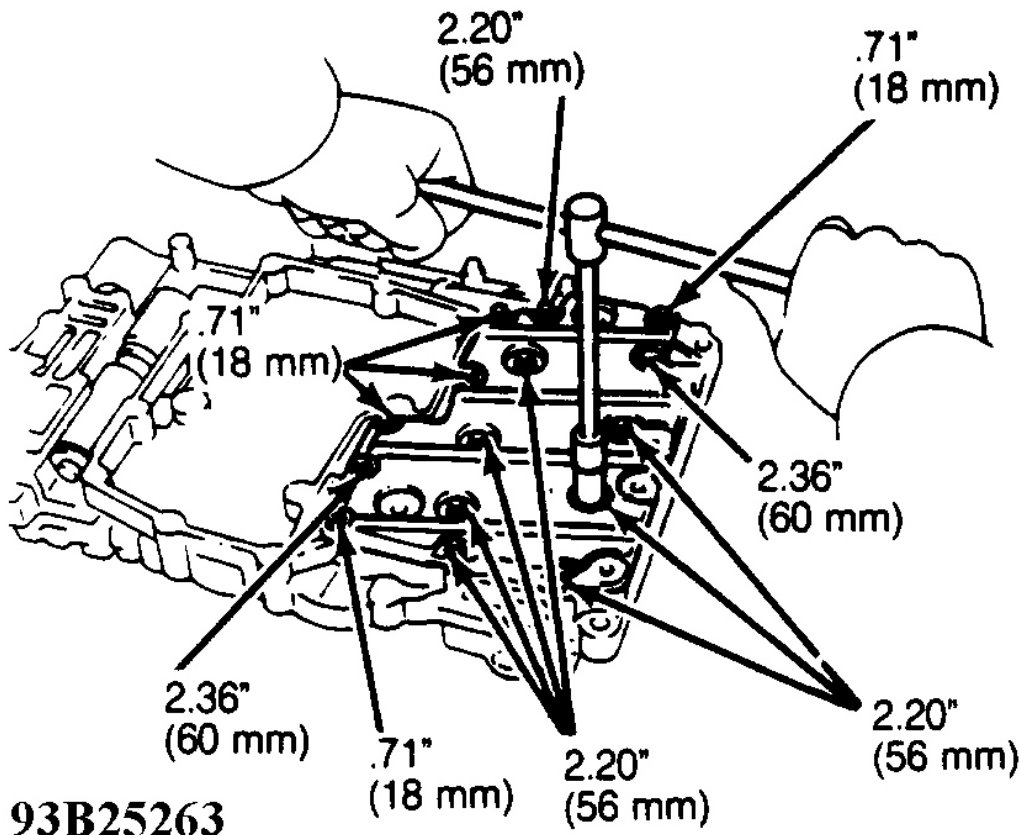

Fig. 51: Locating Valve Body Bolts
6. Position NEW No. 3 gasket, body plate and new No. 4 gasket on lower valve body. Install body cover with 15 wave washers and bolts. See **Fig. 51** . Torque bolts to 48 INCH lbs. (5.4 N.m).